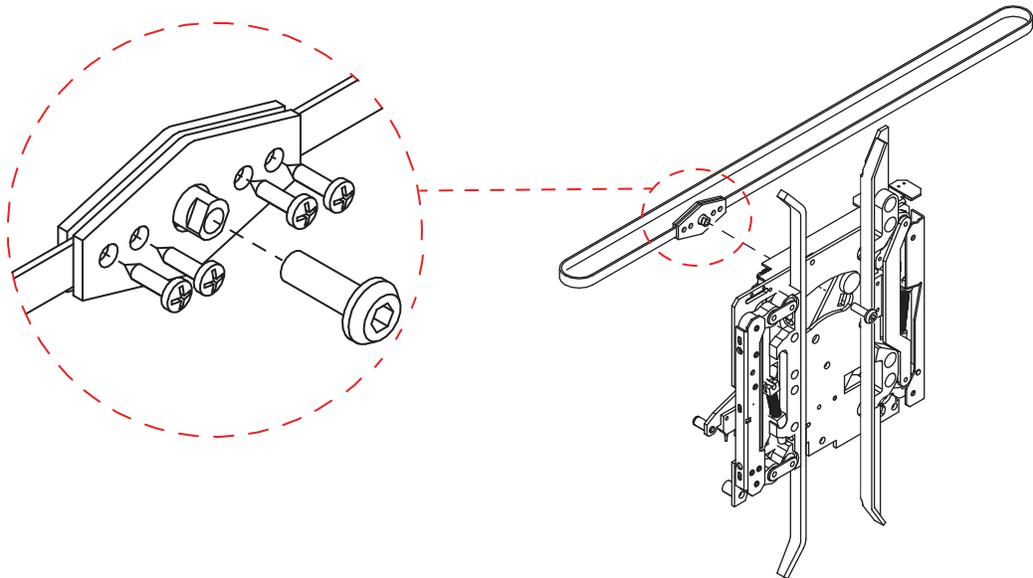

Figure 36 - Replace the Drive Belt
1. Remove the drive belt screws. See Figure 36.